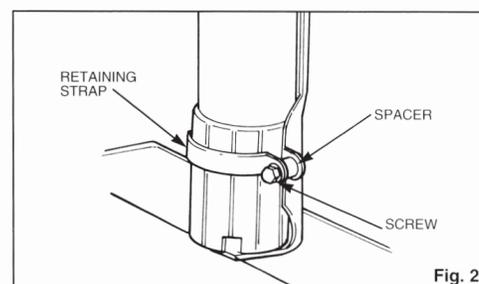

Fig. 2
- 6) Firmly seating the fuel pump into the pump bracket, install the fuel pump retaining strap and using the spacer and longer screw, as illustrated (see Fig. 2), securely tighten the screw to the pump bracket.